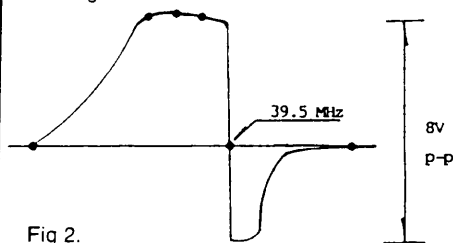

Fig 2.
Tank Coil Alignment Step (see fig 2)
- 7: Adjust T101 to obtain the waveform as fig 2.